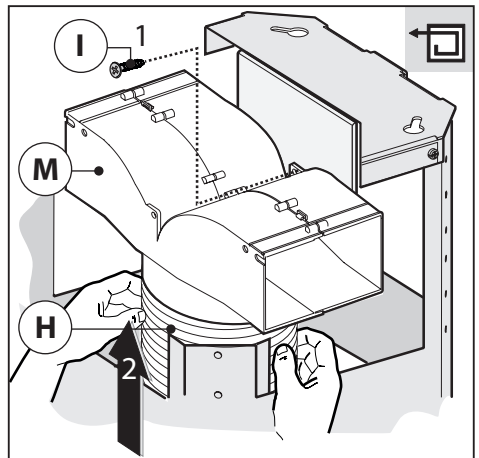
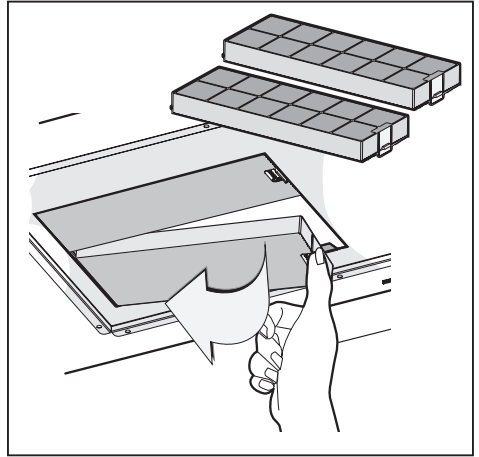
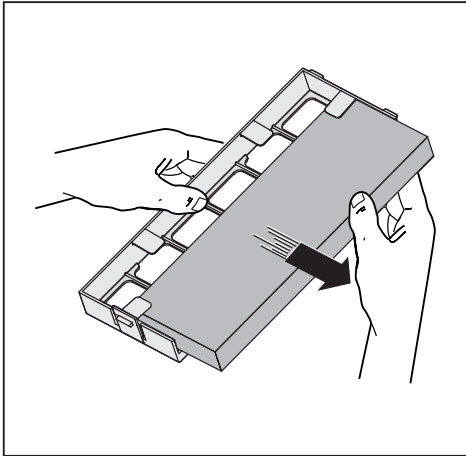

Fig.13
Fig.16
Fig.17
•**Filtering version:** we have two different types of Kit, one with extractable carbon filters (Fig.16) and the other one with re-usable carbon filters (washable) (Fig.17).
-Fix the flexible pipe to the deflector **M** and fix screw **I** as indicated in Fig.13, the active carbon filters must be applied to the suction unit positioned inside the hood (Fig.16).